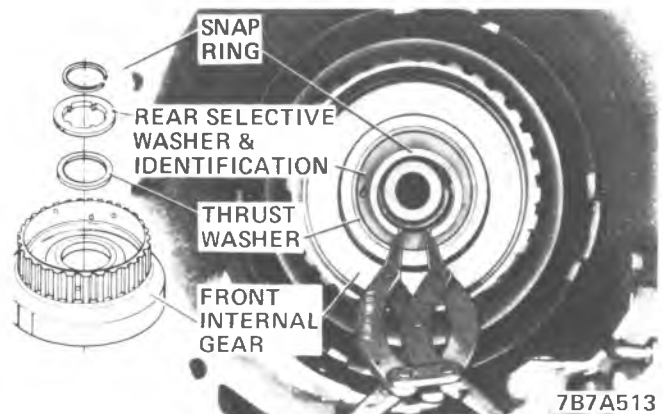

Figure 7A1-42 Removing Output Shaft to Selective Washer Snap Ring
1. Grasp output shaft and lift out remainder of rear unit parts and lay down in a horizontal position. (Figure 7A1-50).